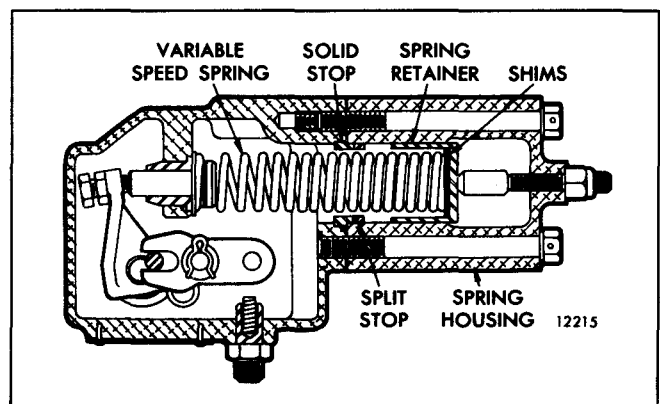

Fig. 5 – Location of Shims and Stops
3. Refer to Table 1 and determine the stops or shims required for the desired full-load speed (Fig. 5). Do not use more than four thick and one thin shim. *A split stop can only be used with a solid stop.*